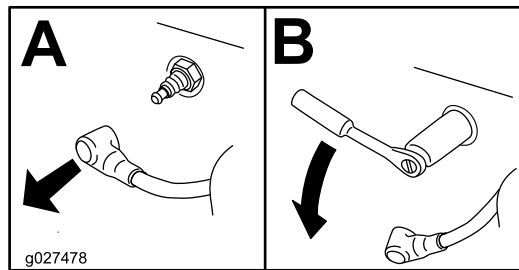

Figura 20
4. Retire la bujía (Figura 20).